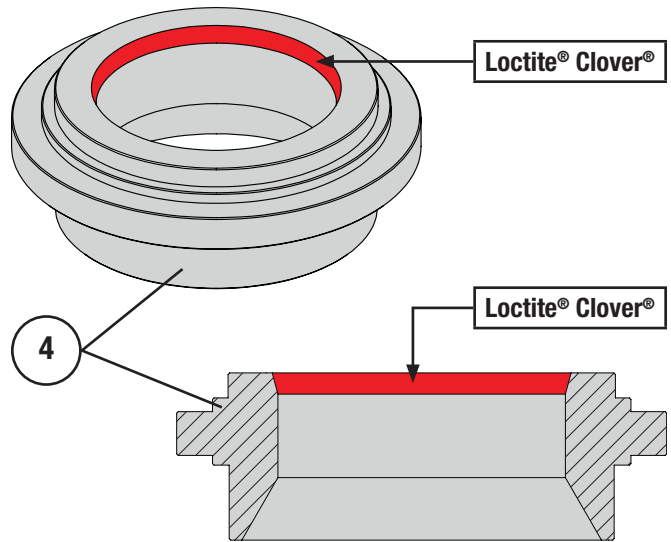

Figure 14 Lapping Compound Application Area
- 4 Do not install any plug seals into the valve plug (Key 6). Apply fine grit Clover® compound to the seating surface of the seat ring (Key 4) as shown in Figure 14. Install the valve plug / stem assembly (Keys 6, 7, 8) into the valve. Mark the position of the plug / stem assembly using the marker. **NOTE:** Be very careful when applying the lapping compound, lapping compound can easily damage parts.